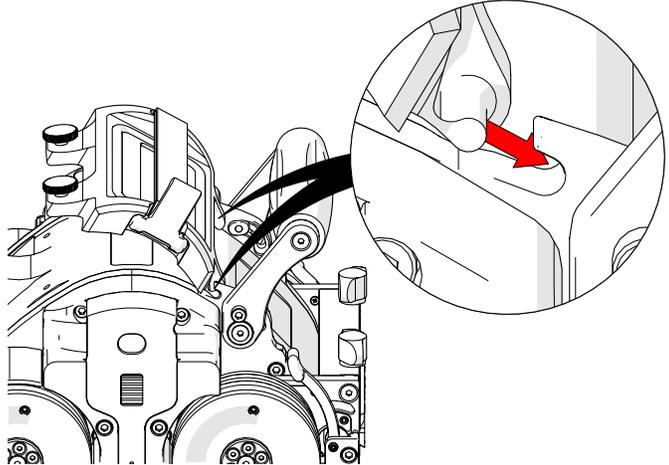

Fig. 101 - Fit backpack into notches
2. Place the front of the backpack into the notches found near the base of the handle (Fig. 101).